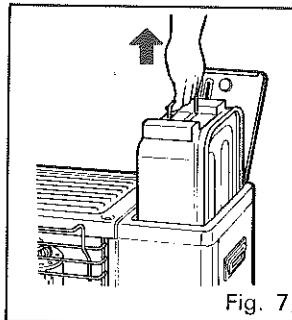

Fig. 7
- ④ It is quite difficult to separate proper kerosene from deteriorated or impure kerosene. Therefore care should be taken to distinguish the good quality from the BAD if kerosene is kept over the preceding season. Avoid using kerosene that is unreasonably low in price.
- ① Be sure to extinguish the kerosene heater and remove the cartridge tank before refueling. (Do not remove the cartridge tank during combustion.) (Fig. 7)
- ② Use the enclosed siphon for refueling.